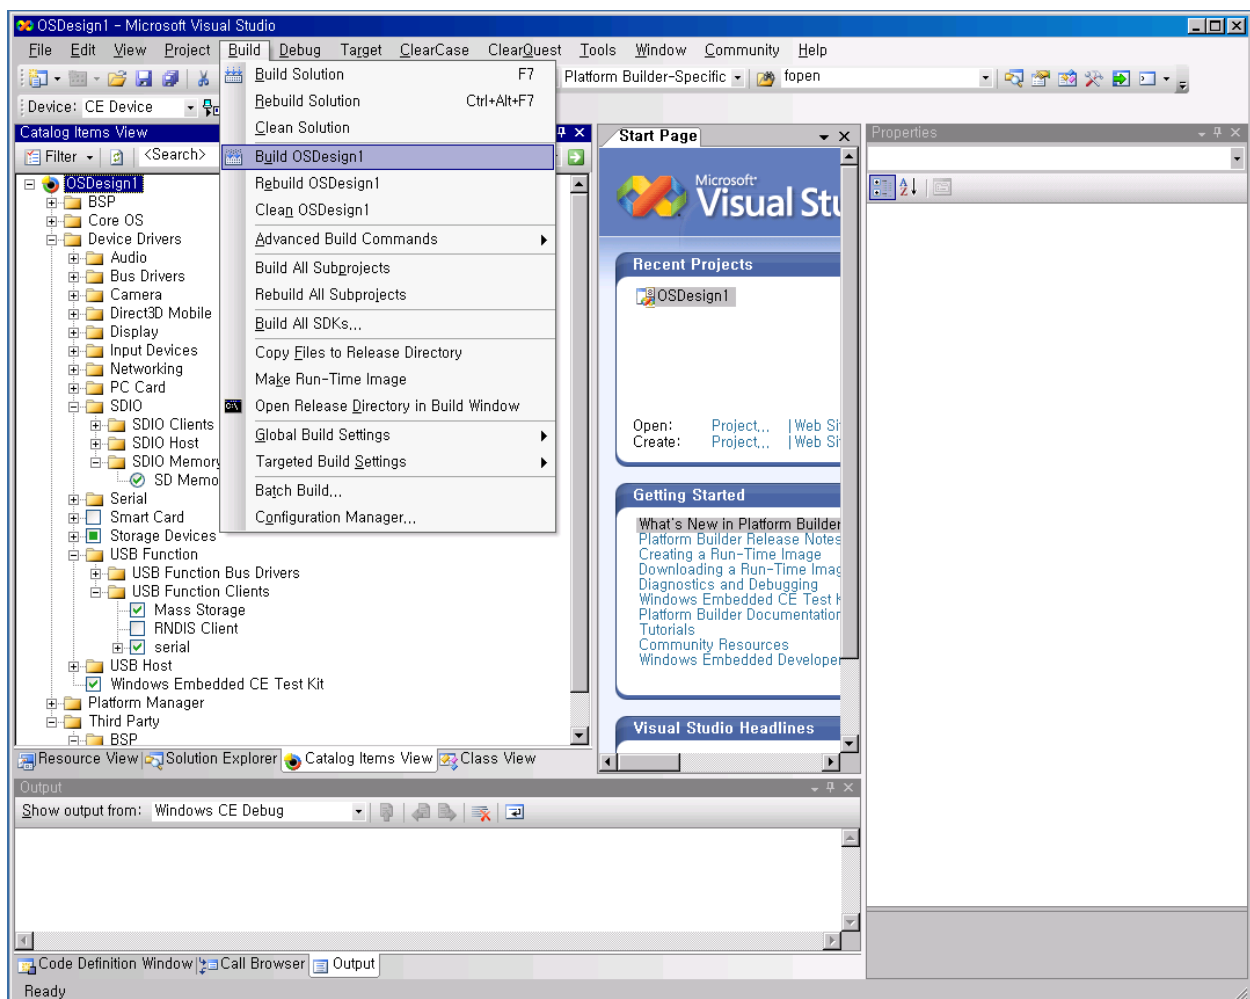

Figure 7-3 Build OSDesign
2. On the **Build** menu, click **Build OSDesign1** as shown in figure 7-3 to build the Eboot and OS image.